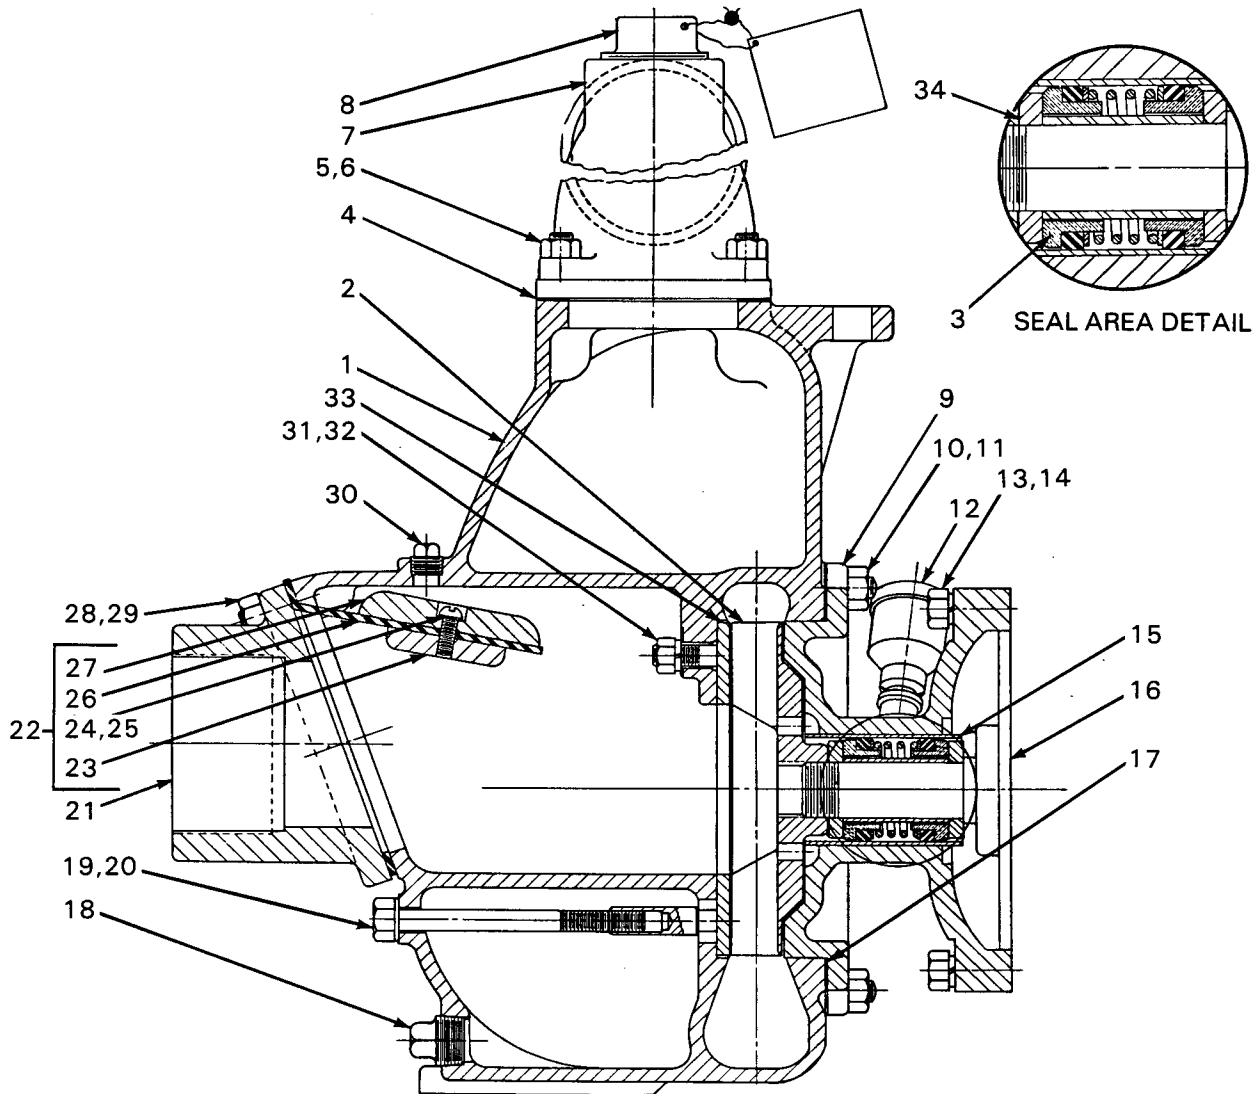

Figure 2. 83A2-(530RT) Pump End Assembly
See figure 2, remove the volute drain plug (18), and drain the pump. Clean and reinstall the drain plug.
Clean the engine crankshaft and the bore of the seal liner (15, figure 2), with a soft cloth soaked in cleaning solvent.